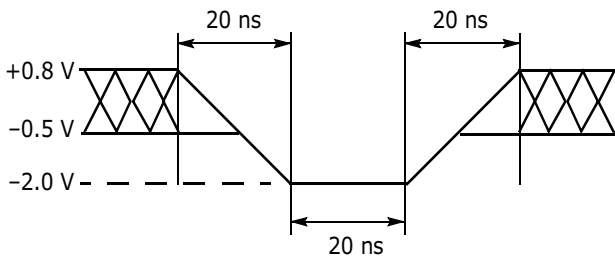
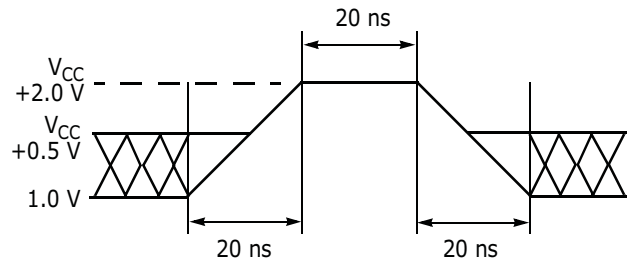

Figure 16.1. Maximum Negative Overshoot Waveform
Figure 16.2. Maximum Positive Overshoot Waveform
1. Minimum DC voltage on input or I/Os is -0.5 V. During voltage transitions, inputs or I/Os may undershoot V_{SS} to -2.0 V for periods of up to 20 ns. See Figure 16.1. Maximum DC voltage on input or I/Os is $V_{CC} + 0.5$ V. During voltage transitions outputs may overshoot to $V_{CC} + 2.0$ V for periods up to 20 ns. See Figure 16.2.
2. Minimum DC input voltage on pin ACC is -0.5V. During voltage transitions, ACC may overshoot V_{SS} to -2.0 V for periods of up to 20 ns. See Figure 16.1. Maximum DC voltage on pin ACC is +9.5 V, which may overshoot to 10.5 V for periods up to 20 ns.